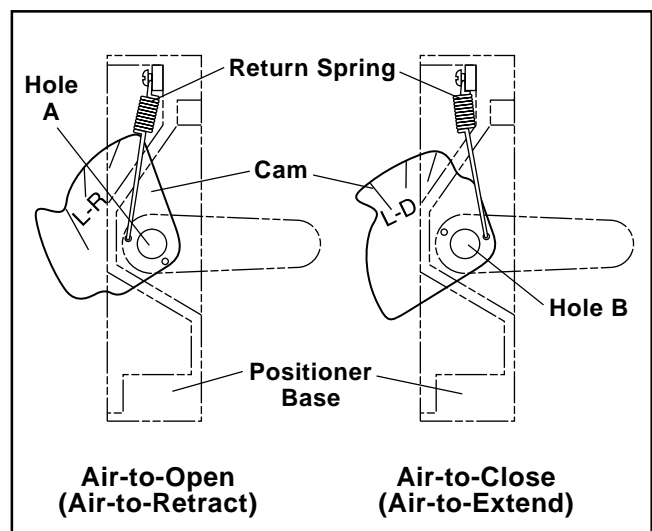

Figure 3: Return Spring / Cam Mounting
4. For air-to-retract action, install the cam in the positioner, with L-R facing outward. For air-to-extend action, L-D side of the cam should face outward. When installing the cam, position it so the center mark on the cam lines up through the center of the cam roller-bearing on the cam follower arm with the follower arm perpendicular to the base of the positioner. (See Figures 3 and 4.) Apply a small amount of grease to the bent end of the return spring and feed it through the hole in the cam. Loop the other end of the return spring over the screw and screw it into the positioner base.